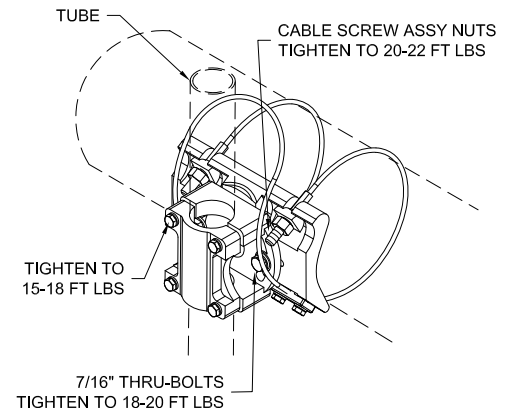

Figure 4
6. Use a 3/8" Open End Wrench to hold the Cable Screw and tighten both Cable Screw Assembly Nuts to 20-22 ft-lb of torque, using an 11/16" Box End Wrench or Ratchet as shown in Figure 4.